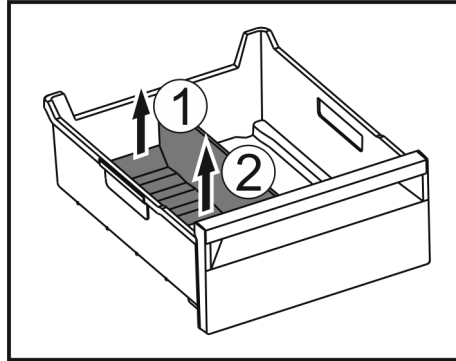

Fig. 117
- ▶ Lift the rear part of the ice compartment divider. Fig. 117 (1)
- ▶ Remove the ice compartment divider upwards. Fig. 117 (2)